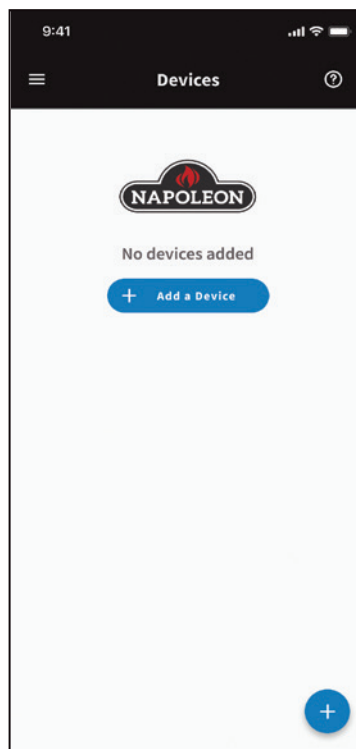

Fig. 27
- Select "Add Device" and accept permissions (**Fig. 27 & 28**).